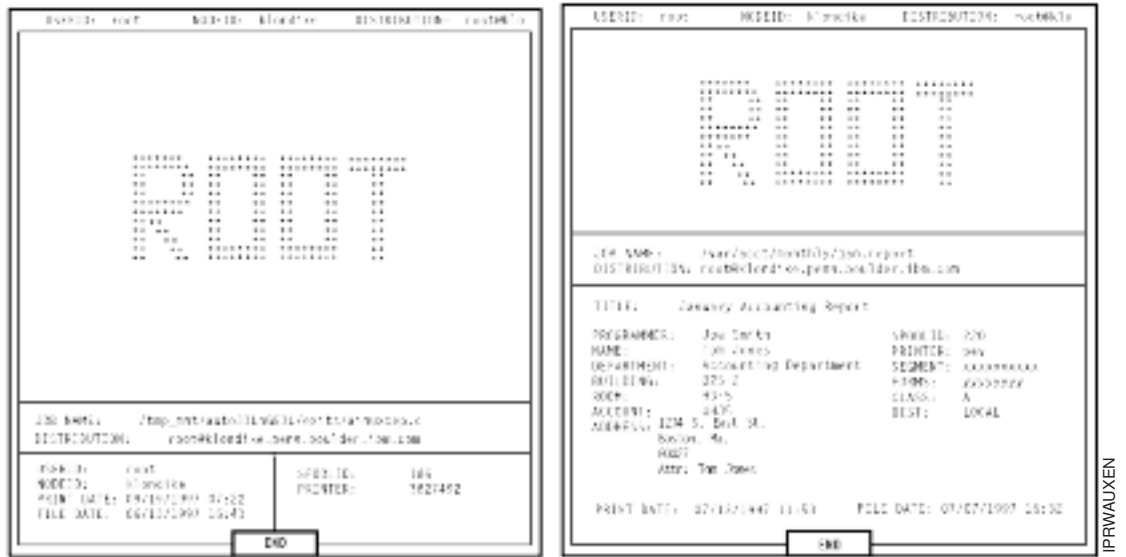

Figure 40. Brief and Full Styles of End Sheets
**End Sheet Examples:** In Figure 40, the user-exit program **ainuxtlr** generated the brief style of the end sheet and user-exit program **ainuxtlr2** generated the full style of the end sheet.